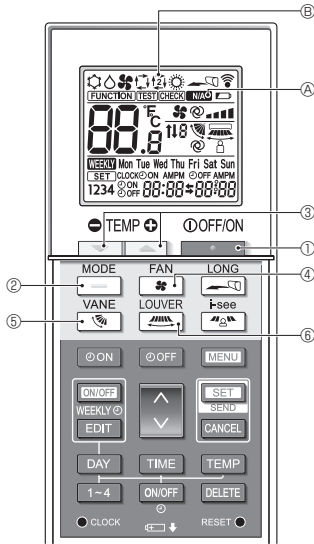

Fig. 4-1
4.1. Switching the unit on/off (Fig. 4-1)
4.2. Selecting a temperature (Fig. 4-1)
- In the setting screen, press the button ② to switch the blinking display between the upper limit (cooling) and lower limit (heating).
- Press the or button ③ in the setting screen to change the blinking set temperature.
4.3. Selecting a fan speed (FAN) (Fig. 4-1)
4.4. Adjusting vertical airflow direction (Fig. 4-1)